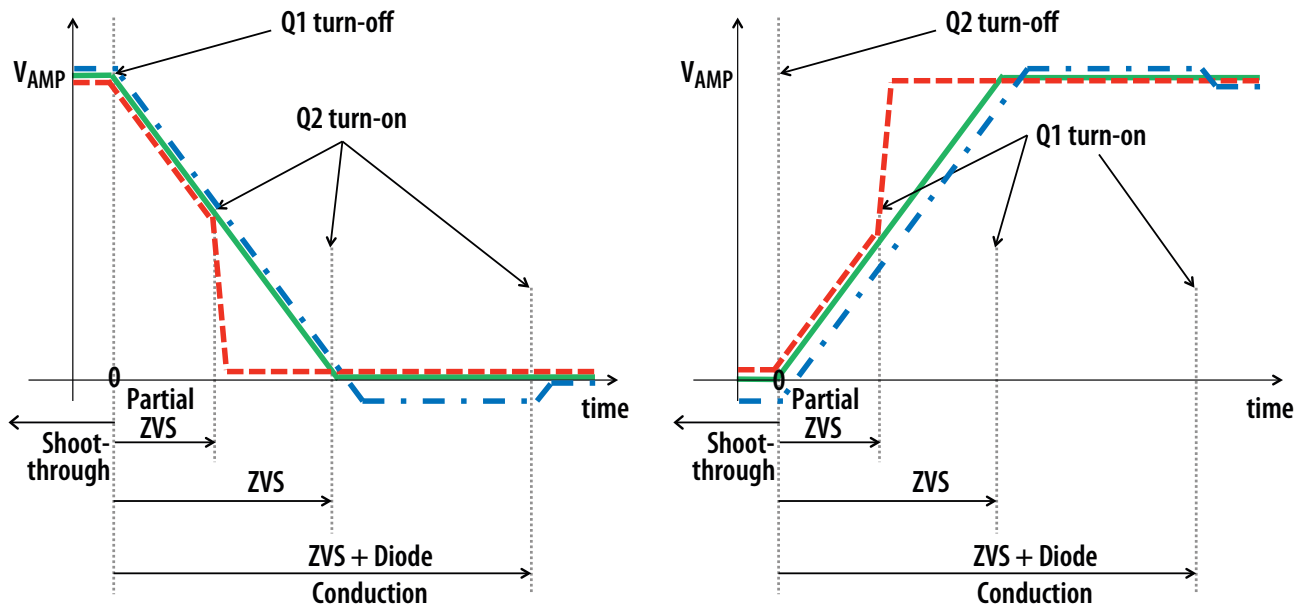

Figure 10: ZVS Timing Diagrams
Setting the correct time to establish ZVS transitions is critical to achieving high efficiency with the EPC9510 amplifier. This can be done by selecting the values for R71 and R72 or P71 and P72 respectively. This procedure is best performed using a potentiometer installed at the appropriate locations that is used to determine the fixed resistor values. The timing MUST initially be set WITHOUT the source coil connected to the amplifier. The timing diagrams are given in Figure 10 and should be referenced when following this procedure. Only perform these steps if changes have been made to the board as it is shipped preset. The steps are:
6. While observing the oscilloscope adjust the applicable potentiometers to so achieve the green waveform of Figure 10.